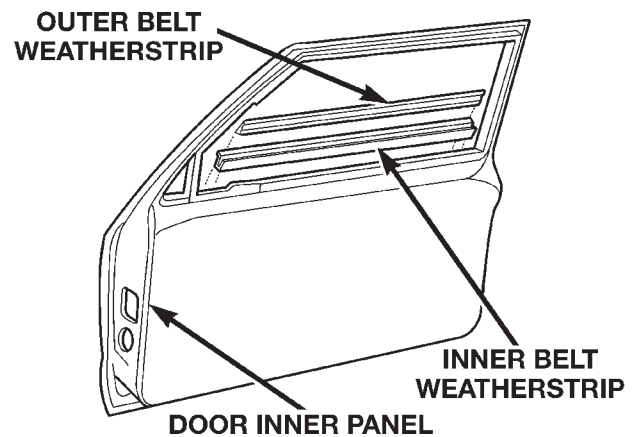

Fig. 33 Front Door Inner/Outer Belt Weatherstrip
- (1) Roll window down.
- (2) Remove door trim panel.
- (3) Pull up on the rear corner of the weatherstrip and lift from the door (Fig. 33).
- (2) Using a trim stick, pry up the rear outer corner of the weatherstrip.
- (3) Lift the weatherstrip up to separate from the door (Fig. 33).